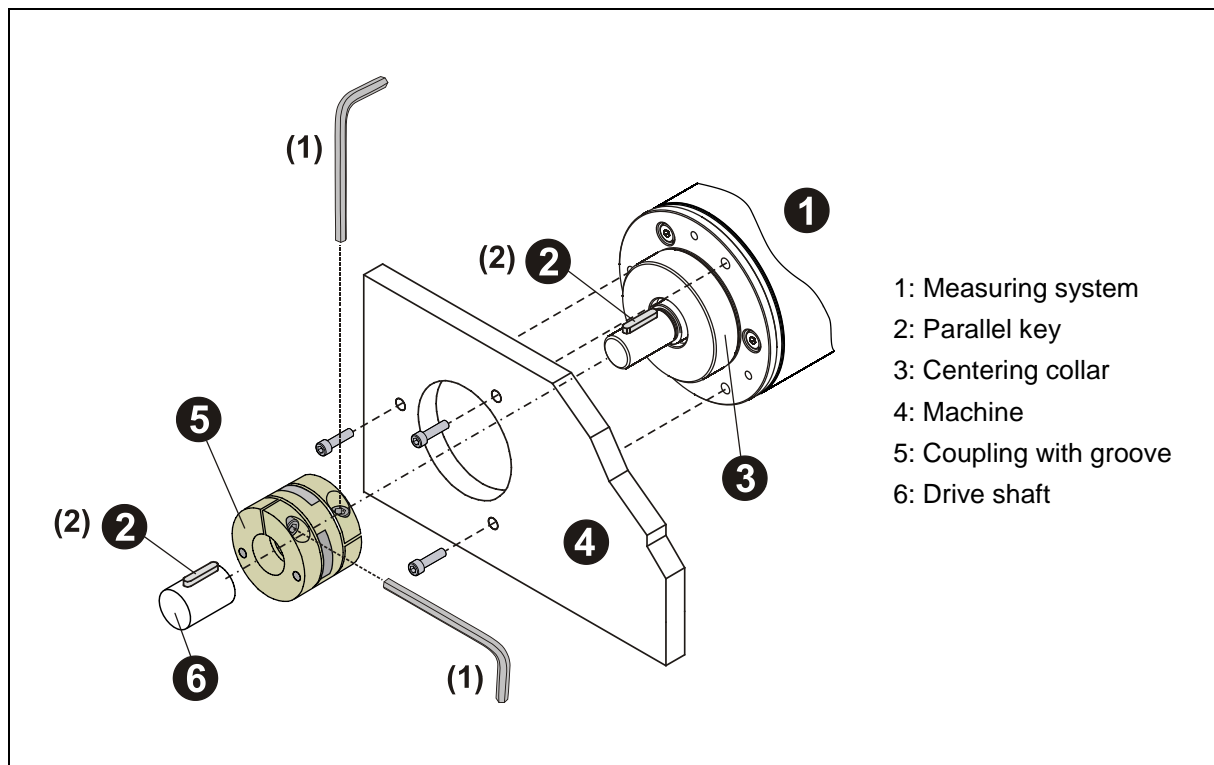

Figure 1: Flange mounting
- Axial slipping of the measuring system on the drive shaft must be prevented by the coupling fixing, see Figure 1, (1).
- General recommendation: Radial slipping (slip) of the measuring system on the drive shaft should be prevented by means of form closure by using a parallel key / groove combination (Figure 1, (2)); a coupling with groove can be used for this purpose.